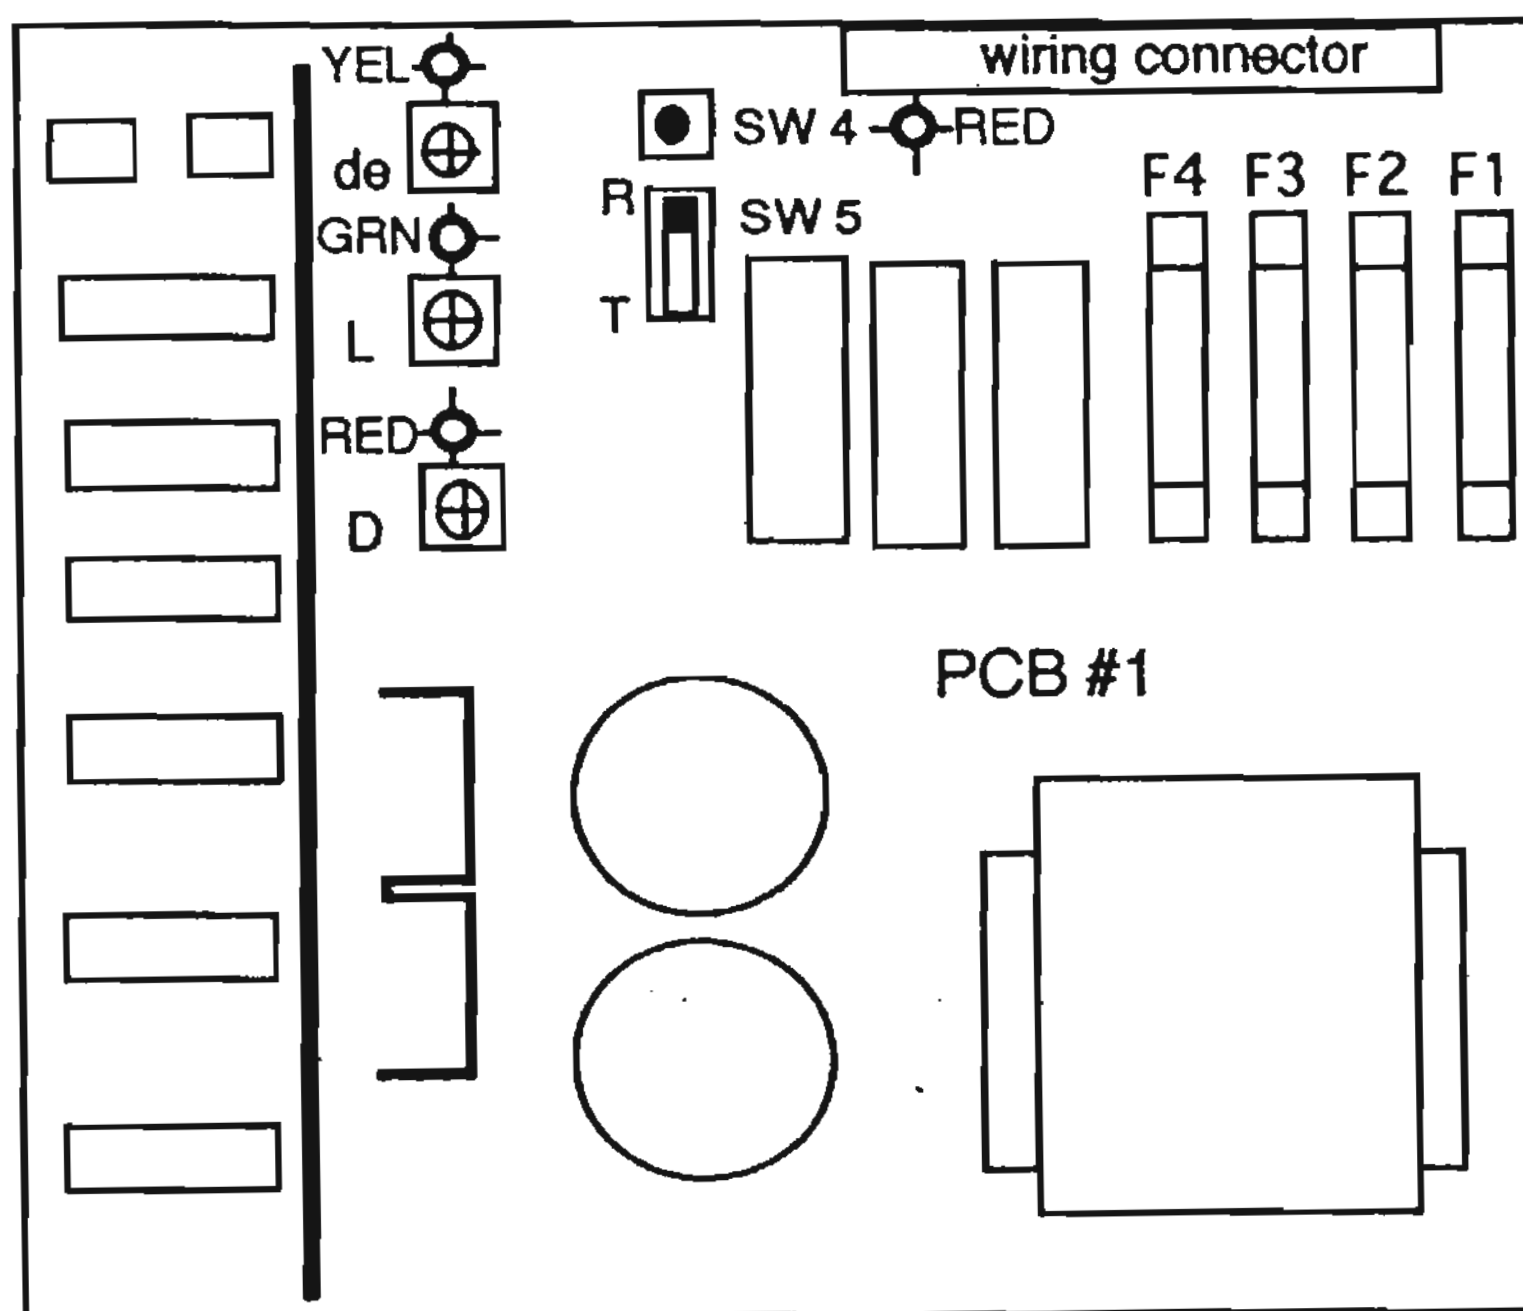

FIG 4-1
a. Refer to **FIG 4-1**. This board provides 24 VDC power and timed output signals to operate the DRIVE and LOAD valves. It also monitors the safety interlock function of the proximity sensor.
1. Disconnect **ALL** electrical power before proceeding then see **FIG 4-1**.